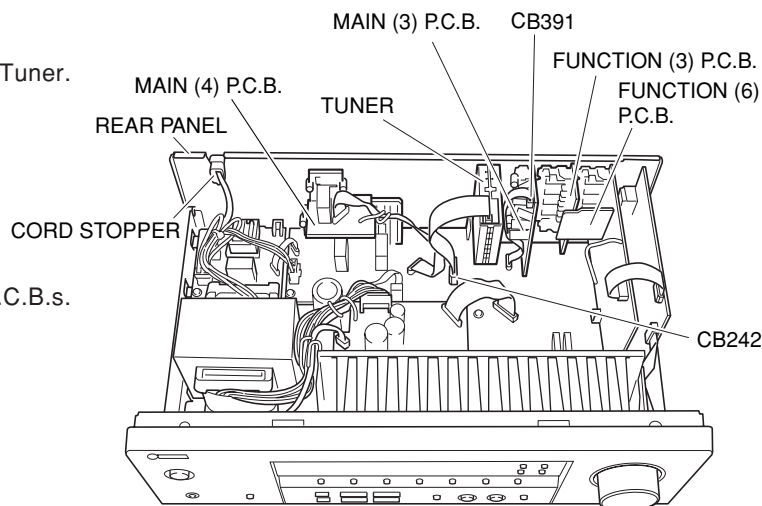

Fig. 2
3. Removal of MAIN (3), MAIN (4), FUNCTION (3), FUNCTION (6) P.C.B.s and Tuner
- Remove CB242 and CB391. (Fig. 2)
- Remove MAIN (3), MAIN (4) P.C.B.s and the Tuner. (Fig. 2)
- Remove Cord Stopper. (Fig. 2)
- Remove Rear Panel. (Fig. 2)
- Remove FUNCTION (3) and FUNCTION (6) P.C.B.s. (Fig. 2)